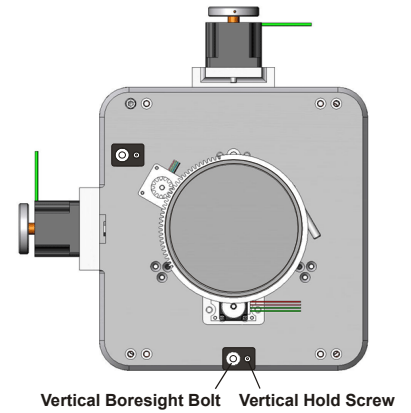

Figure 2-27 Vertical Boresight
1. Loosen the **Vertical Hold Screw**. See **Figure 2-27**.
8. Adjust the **Vertical Hold Screw** to lock the lens mount in place and check boresight again (**Figure 2-27**).